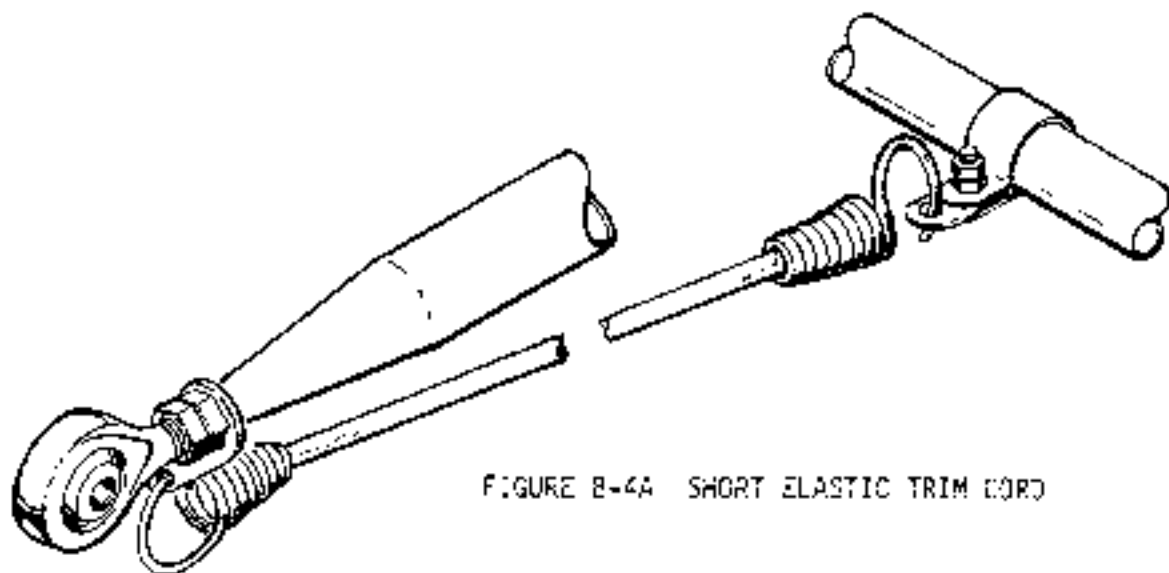

FIGURE 8-4A SHORT ELASTIC TRIM CORD
- c) If short elastic trim cord installed as shown in Figure 8-4A, unhook trim cord at front tab of A121-1 push-pull tube and at clip mounted to support to remove trim cord.
- a) Ensure clamp and clip are installed per Figure 8-4A
- b) For short cord installation see Figure 8-4A